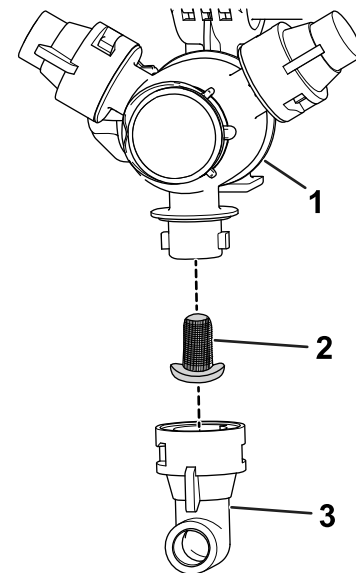

Figure 24
2. Remove the nozzle from the spray turret (Figure 24).
3. Remove the nozzle filter (Figure 24).
5. Install the nozzle filter (Figure 24).
6. Install the nozzle onto the spray turret (Figure 24).